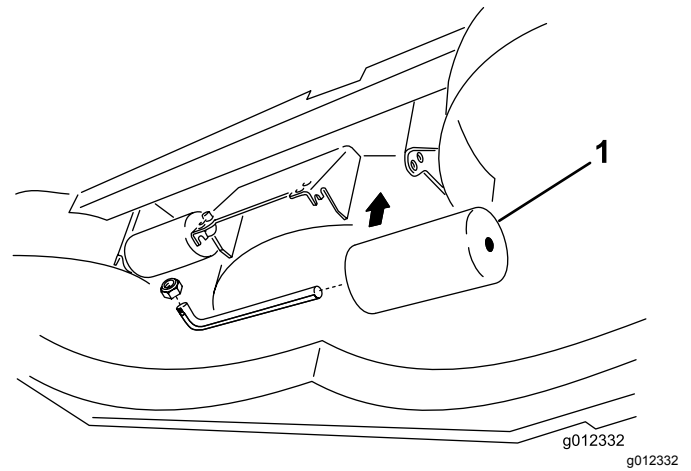

Figure 11
2. Adjust the rear (internal) rollers as shown in Figure 11.